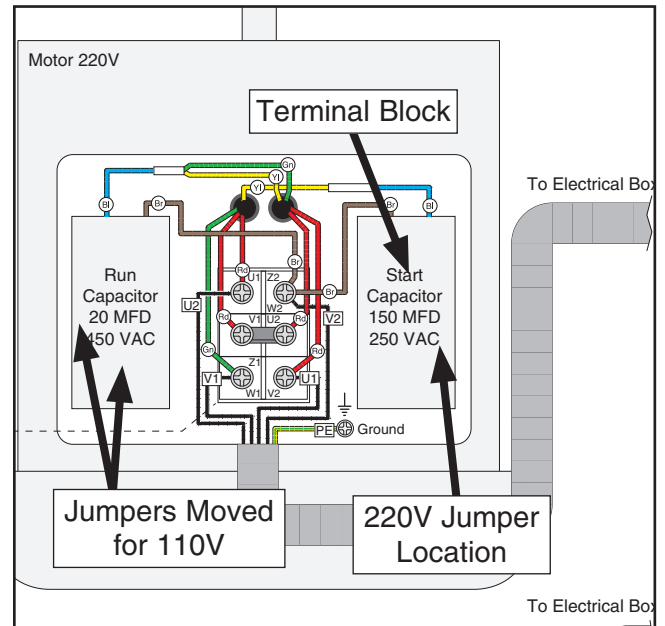

Figure 8. Jumper positions on terminal block.
- Locate the terminal block located in the motor junction box, shown in **Figure 8**.
12. Place both of the jumpers into the 110V location shown in **Figure 8**.
13. Replace the screws you removed in **Step 11**, making sure all wires are secured in the same positions they were originally in, as shown in **Figure 8**. Refer to **SECTION 8: WIRING** starting on **Page 45** for detailed wiring diagrams.